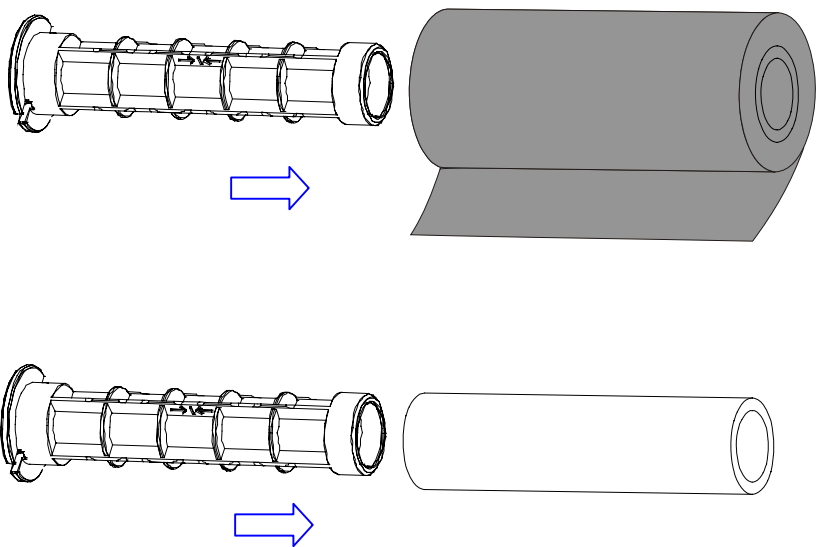

Figure 5-3
4. Unwrap the ribbon roll pack and separate the ribbon roll and the core (Figure 5-3).
5. Slide the roll of Ribbon onto one of the Ribbon Spindles and the core onto the other spindle (Figure5-3).